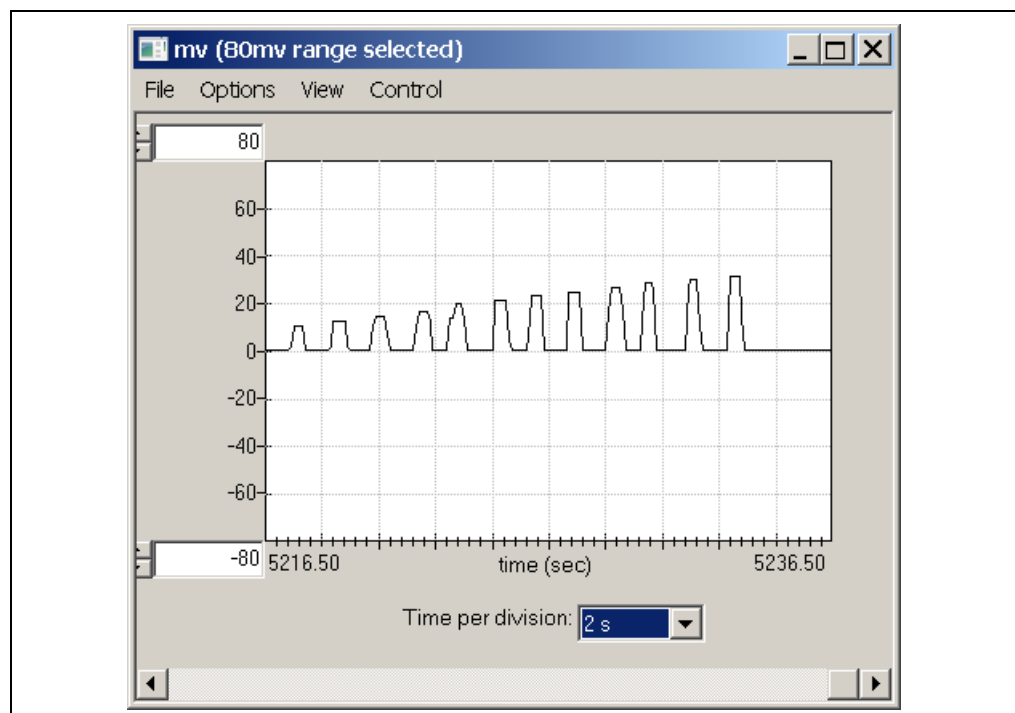

FIGURE 5-4: Momentary Pulse Amplitude Plot.
7. Continue turning Rotary Switch 2, one position at a time, and pressing Switch 4. Observe the plot (Figure 5-4).